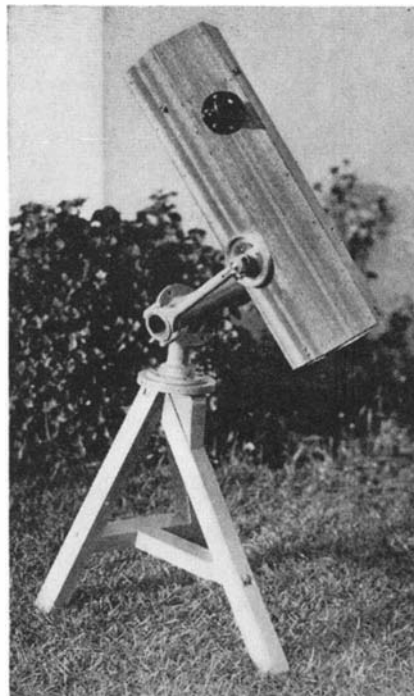

Figure 2: A hexagonal RFT
**O**NE more of Walkden's "Richest-field" telescopes, an "RFT" of 6" aperture, made by Fred W. Forrester, 252 Lemon Ave., Arcadia, California, is shown in Figure 2. It has a hexagonal tube made of ¼" plywood. The eyepiece lenses are coated with fluorides, to eliminate the ghosts (optical ghosts, or ghost images). "I think the RFT is great," Forrester enthuses.